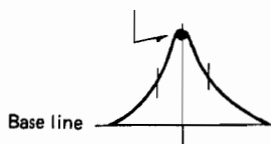

Fig. 18
1. Feed in a weak signal to TP101 from the genescope. Adjust T101 for maximum gain and the wave form indicated in Figure 18. If the center of the wave form cannot be lined up on the marker, adjust the right/left balance.